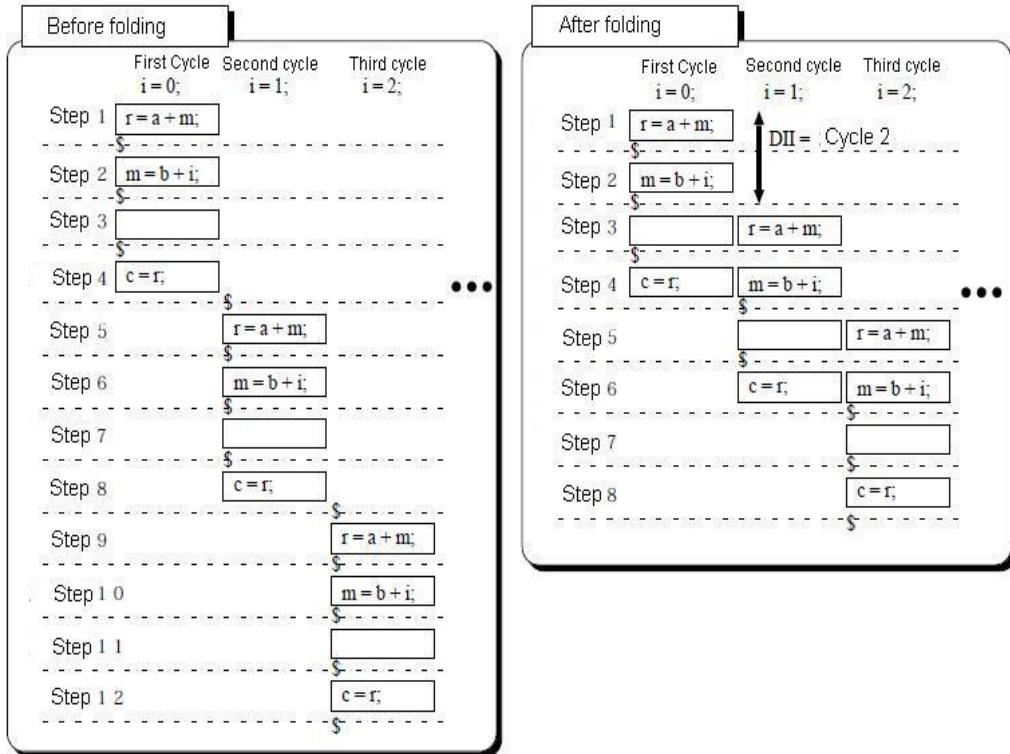
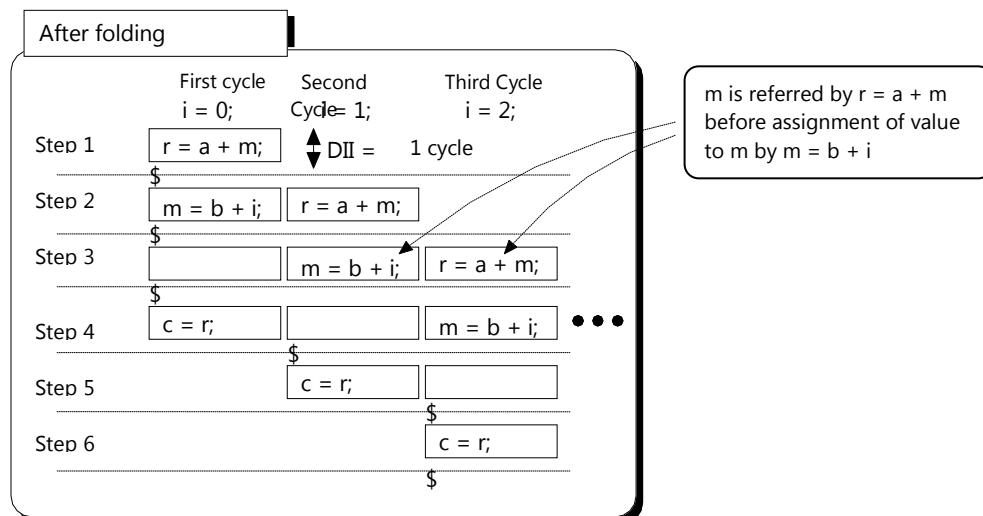

Figure 57: Loop folding of 'for' statement, Example No 1
Figure 58: Loop folding of 'for' statement, Example No 2.
The attribute value is taken as the DII. The difference of operations between the executions of loop when it is folded verses execution of loop when it is not folded is explained in Figure 57. The example illustrates loop folding in manual scheduling mode.
In **Figure 57**, the "for" loop will be executed in 40 cycles (4 cycles×10 times) if the loop is not folded. On the other hand, If the loop is folded with a DII of 2 cycles, then it will get executed in 22 cycles (2 cycles+2 cycles× (10-1) times+2 cycles=22 cycles).
- Variables referenced after an assignment in loop process/body (variable "r" in example of **Figure 57**).
- Variable referred before the assignment in loop process (Variable "m" in example of **Figure 57**).
The operations shown in Figure 57 is further illustrated in Figure 58 with DII = 1. In this case, the variable "m" will not fulfill the dependency relationship. Therefore, it will result in the F_BT4665 error as shown below.
In **Figure 57**, when the input variables "a" and "b" are made into the same variable "a" then the input variable "a" is input twice in two cycles for two different stages. When synthesis is performed with loop folding (with DII=1), input variable "a" will be input twice in one cycle for two different stages. This will result in an error as shown in Figure 59.